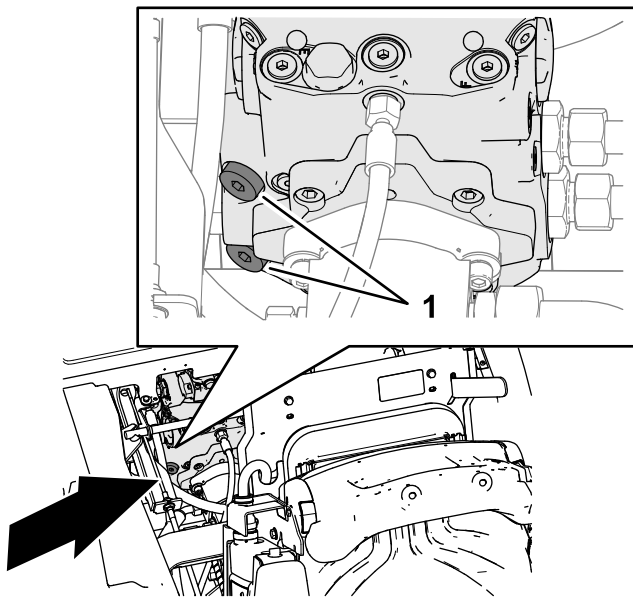

Figure 37
1. Use an 8 mm (5/16 inch) hex key to rotate the 2 socket head plugs for the transmission pump-relief valves counterclockwise 3 full turns (Figure 37).